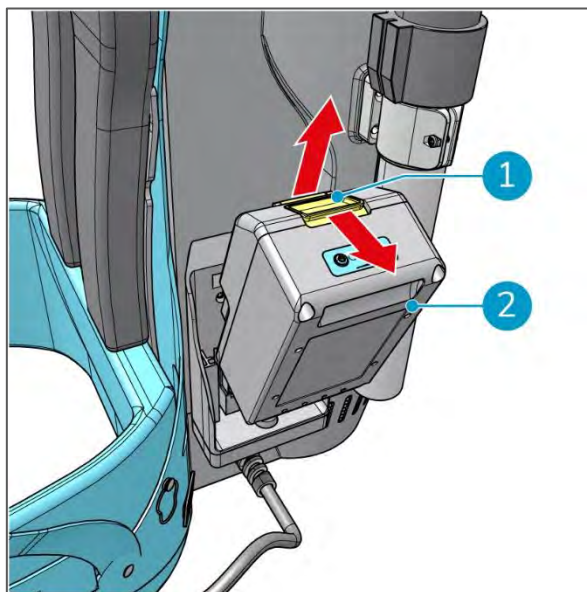

Figure 16
1. Slide the yellow button of the battery (Figure 16, pos 1) towards you to unlock it.
2. Pull out the battery (Figure 16, pos 2).